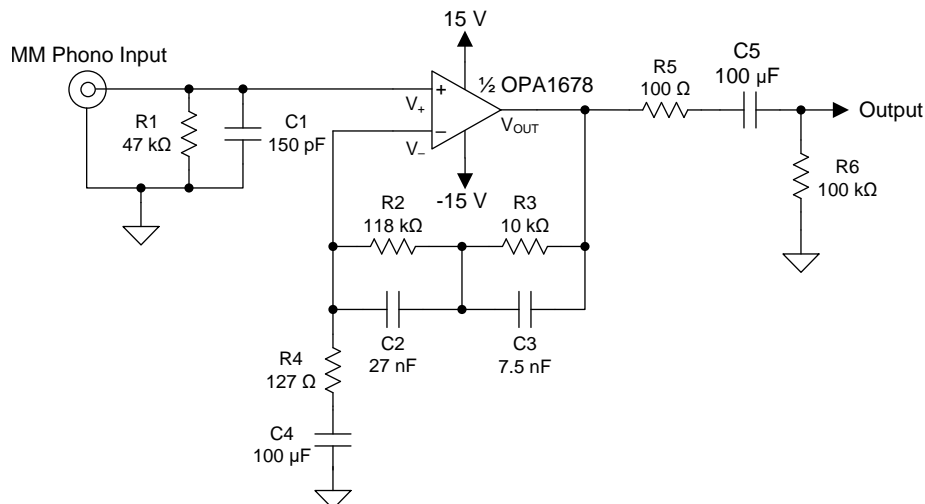

图 38. Phono Preamplifier for Moving Magnet Cartridges (Single-Channel Shown)
The noise and distortion performance of the OPA167x family of amplifiers is exceptional in applications with high source impedances, which makes these devices a viable choice in preamplifier circuits for moving magnet (MM) phono cartridges. 图 38 shows a preamplifier circuit for MM cartridges with 40 dB of gain at 1 kHz.